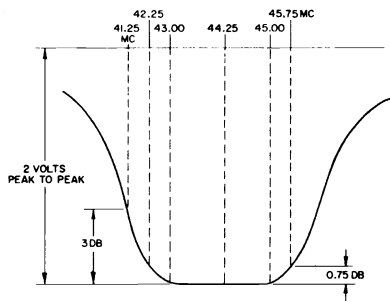

Figure 13 - Typical IF response, 3rd IF Amp grid to 2nd Det.
| 2. | Oscilloscope and VTVM to TP (B) IF sweep generator with CW Marker at 44.25 MC to TP (E) | Short antenna terminals. T203 primary (bottom slug): Maximum amplitude T203 secondary (top slug): Rocking symmetrical response (see Figure 13) |